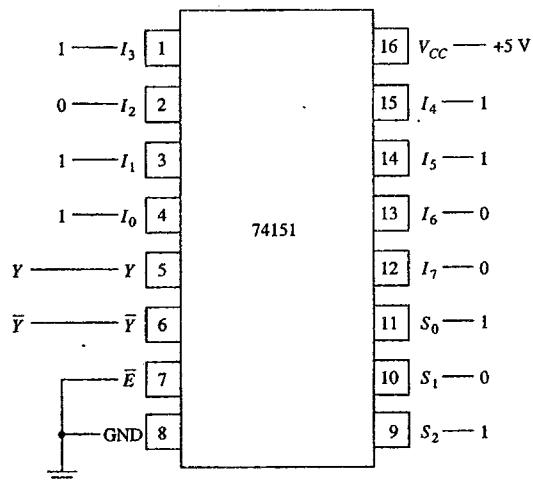

Figure 6
- (d) The connections shown in Figure 6 are made to the 74151 8-line multiplexer. Determine  $Y$  and  $\bar{Y}$ .